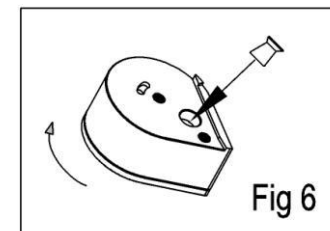

Fig 6
- Load one pellet, skirt first, into the magazine port (See Fig 6). Turn the transparent plate clockwise to load another pellet until the plate rebound is felt, which means the last pellet is loaded. Turn the plate back and now you have finished loading pellets to the magazine.